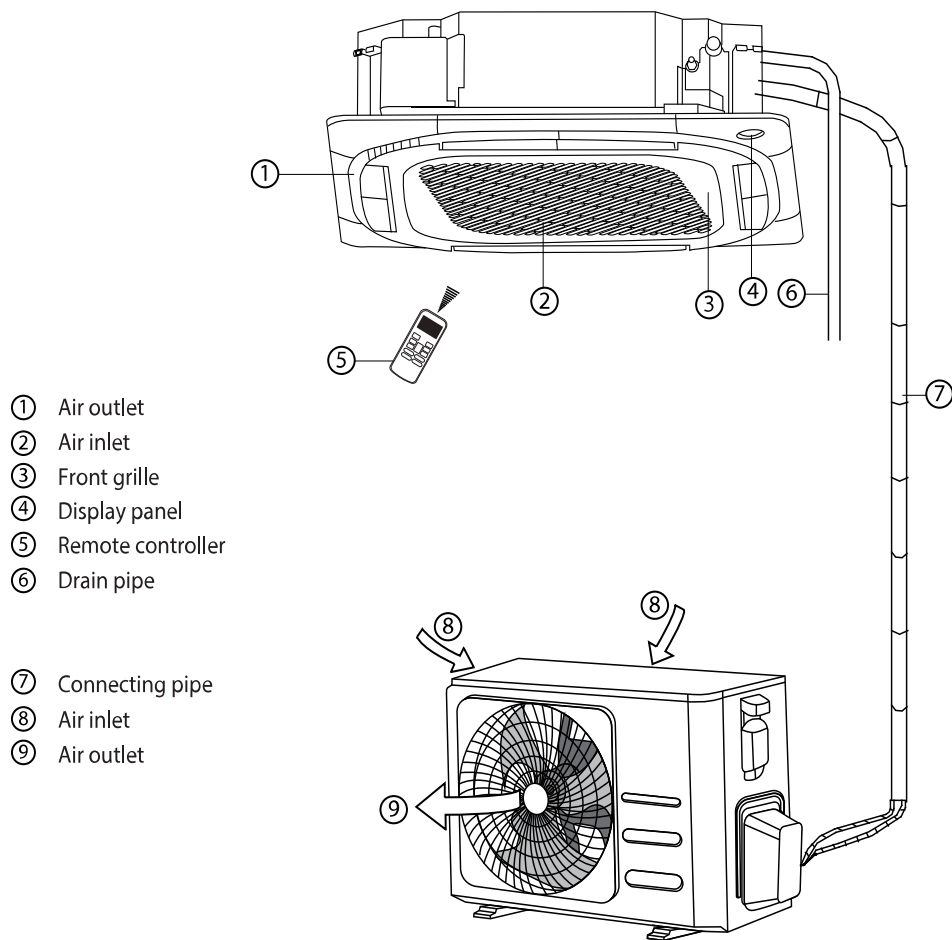

Fig. 3 —Parts List
- The illustration above (Fig. 3) is only a sketch. Different models may differ slightly.